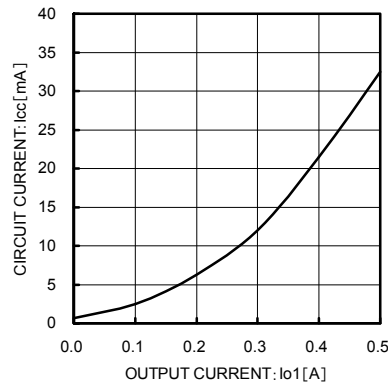

Fig. 14 Circuit Current vs Load Current I_{o1} (I_{o1} = 0 → 500 mA)
- Power consumption due to circuit current: $P_{c3} = V_{cc} \times I_{cc} = 5 \times 0.0085 = 0.0425 (W)$ (See Figs. 14 and 15)